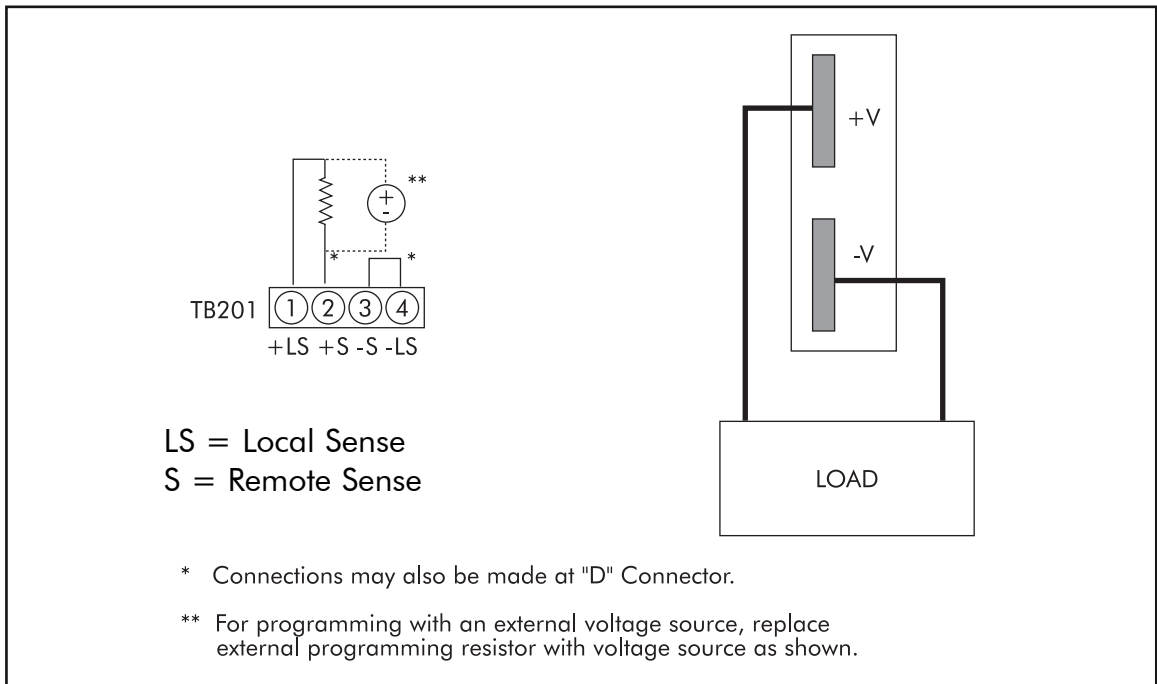

Figure 4 - Remote Voltage Control with an External Programming Resistor or Voltage Source (Local Sensing)
Remote Voltage Programming external resistor.	1000 ohms per volt for resistor connected between pins 1 and 2 on TB201 (see Figs. 4 and 5).
Remote Voltage Programming external voltage source.	Volt per volt for voltage source connected between pins 1 and 2 on TB201 (see Figs. 4 and 5).
2. With the power supply unloaded, set  $V_{out}$  to the OVP threshold desired. In cases where the desired OVP threshold exceeds the unit's adjustment range maximum of 15.75V, a programming resistor (see figures 4 & 5) will temporarily be needed to provide the higher output voltage to perform the adjustment. Once adjusted, remove the programming resistor. Alternatively, you may use an external voltage source to set the OVP threshold as shown in figures 4 & 5.